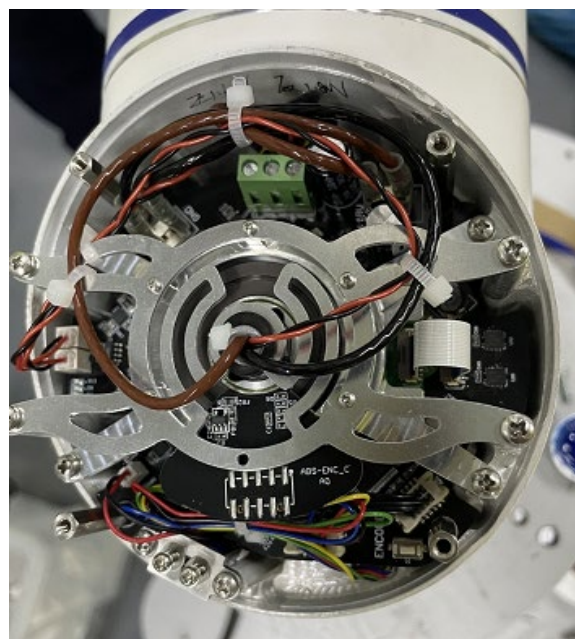

Figure 3-7 The joint with properly tied wires
- Connect the wires and tie them well as shown in Figure 3-7: